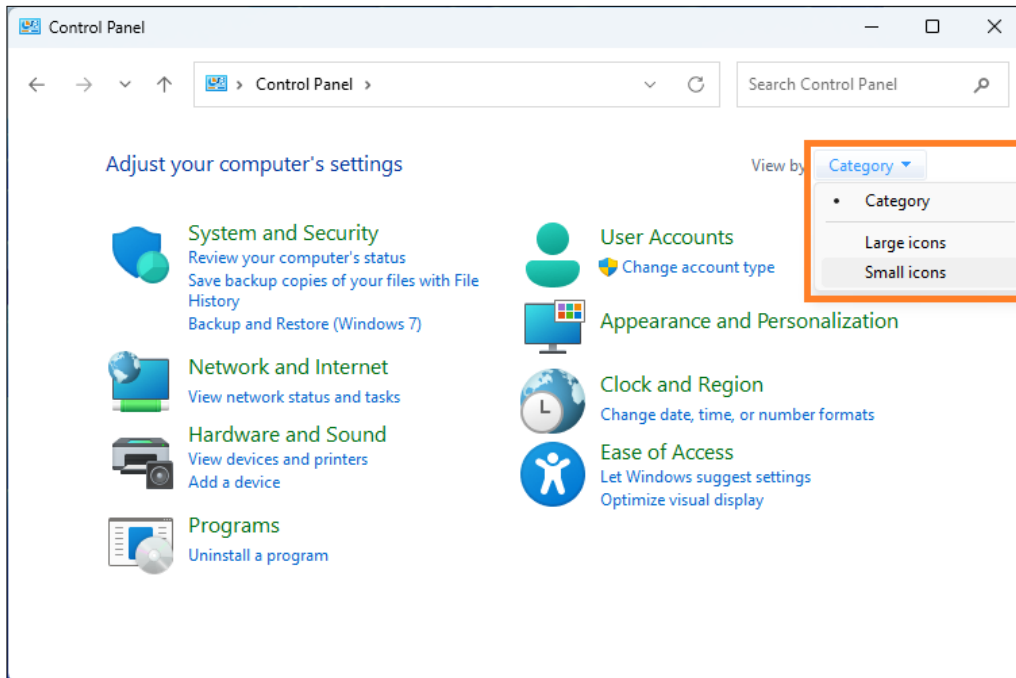

Figure 29: "Control Panel" dialogue
- 2 Switch the dialogue’s interface to *“Small icons”* (see Fig. 29),